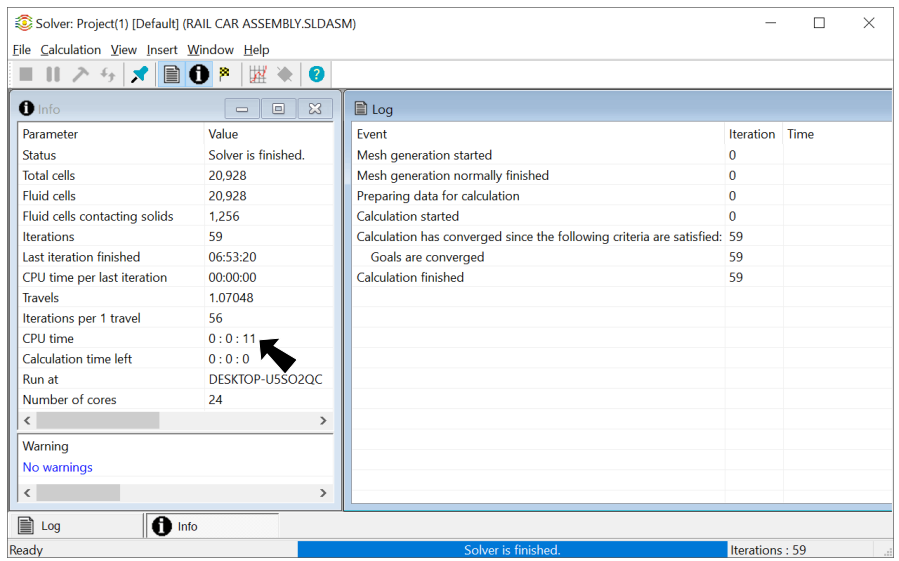

Fig. 15
- Step 1. In the Solver dialog box you can view Calculation time left, **Fig. 15**. The CPU time depends on design and computer.